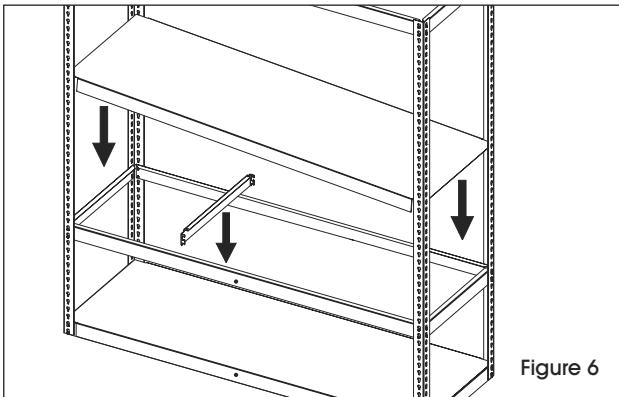

Figure 6
6. Attach front/back supports at the desired next level. Attach shelf support, then lay the steel shelf on the shelf support. (See Figure 6)